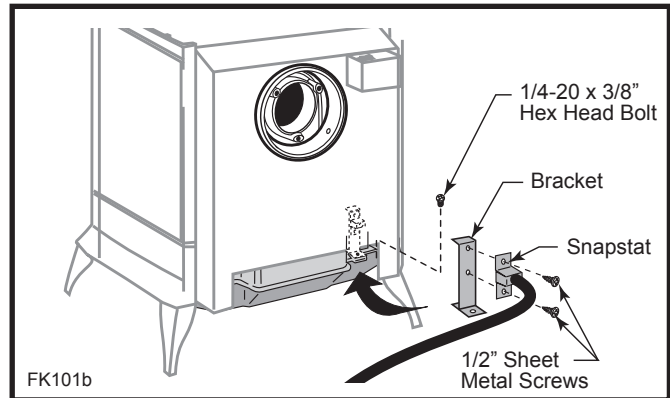

Fig. 13 Snapstat assembly and installation.
1. Attach the Snapstat to the Bracket using two #10 x 1/2" phillips sheet metal screws as shown in Figure 13.
2. Locate and remove the 1/4-20 x 3/8" hex head bolt installed in the hole in the right rear ledge of the firebox. (Fig. 13) Use that bolt to secure the Snapstat Bracket to the firebox. The mounting hole is slotted to allow you to adjust the bracket so that its head makes contact with the firebox surface. (Fig. 11)